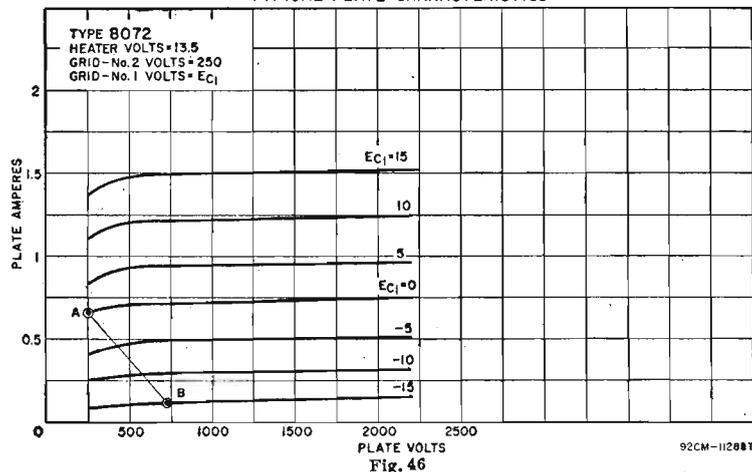
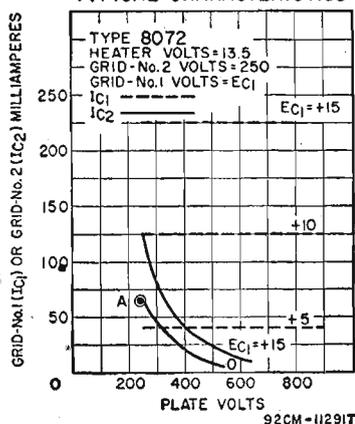

Fig. 46
Fig. 47
The operating conditions for a class AB₁ linear rf amplifier used in single-sideband service can be estimated from the load line plotted on a set of plate characteristics. The typical plate and grid-No.2 characteristic curves shown in Figs. 46 and 47 are used in the following
(1) The plate voltage is selected to be 700 volts; grid-No.2 voltage, 250 volts.
(2) On Fig. 46 plot the maximum-signal point at knee of $E_{c1} = 0$ curve (point A). Read $I_{bmax} = 0.65$ ampere. Locate E_{bmin} at 250 volts.
(4) On Fig. 46 plot the minimum-signal point at $E_b = 700$ volts and $I_{b0} = 0.10$ ampere (point B).
(5) On Fig. 46 read E_{c1} at -15 volts at minimum-signal point B.
(6) Calculate: $I_{be} = I_{bmax}/3 = 0.650/3 = 0.22$ ampere.
(7) Calculate: $I_b = I_{be}/1.4 = 0.22/1.4 = 0.16$ ampere.
(8) On Fig. 47 locate point A at $E_b = 250$ volts and $E_{c1} > 0$ on grid-No.2 current curves. Read $I_{c2max} = 0.065$ ampere.
(9) Calculate: $I_{c2e} = I_{c2max}/4 = 0.065/4 = 0.016$ ampere.
(10) Calculate: $I_{c2} = I_{c2e}/1.4 = 0.016/1.4 = 0.011$ ampere.
(11) Calculate: $P_{c2} = E_{c2} \times I_{c2} = 250 \times 0.011 = 2.7$ watts. Verify that grid-No.2 dissipation is within rating.
(12) Calculate: $P_{in0} = E_b I_{be} = 700 \times 0.22 = 154$ watts.
(13) Calculate: $PEP = (I_{bmax}/4)(E_b - E_{bmin}) = (0.650/4)(700 - 250) = 73$ watts.
(14) Calculate: $P_D = 0.7 P_{in0} - 0.5 PEP = 0.7(154) - 0.5(73) = 71$ watts.
(15) Calculate: $P_0 = PEP/2 = 73/2 = 36.5$ watts.
(16) Calculate: $R_p = 2(E_b - E_{bmin})/I_{bmax} = 2(700-250)/0.65 = 1384$ ohms.
(5) Determine the grid-No.1 bias (E_{c1}) from graph at the point of zero signal found in (3).
(6) DC plate current at peak of envelope (I_{be}) is approximately equal to $I_{bmax}/3$.
(7) Average dc plate current (I_b) is equal to $I_{be}/1.4$.
(8) Determine peak grid-No.2 current (I_{c2max}) from Fig. 47 at conditions in (2).
(9) DC grid-No.2 current at peak of envelope (I_{c2e}) is approximately equal to $I_{c2max}/4$.
(10) Average grid-No.2 current (I_{c2}) is approximately equal to $I_{c2e}/1.4$.
(11) Average grid-No.2 dissipation (P_{c2}) is approximately equal to $E_{c2} \times I_{c2}$.
(12) Peak Envelope Power input (P_{in0}) is equal to $E_b \times I_{be}$.
(13) Peak Envelope Power output (PEP) is equal to $(I_{bmax}/4)(E_b - E_{bmin})$.
(14) Average Plate Dissipation (P_D) is equal to $0.7 P_{in0} - 0.5 PEP$.
(15) Average Power Output (P_0) is equal to $PEP/2$.
(16) Effective rf load resistance (R_p) is equal to $2(E_b - E_{bmin})/I_{b0}$.